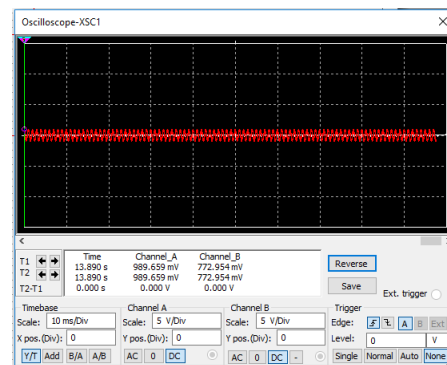

Figure 6. The oscilloscope window.
5. The **Oscilloscope-XCS1** window opens (Figure 6).